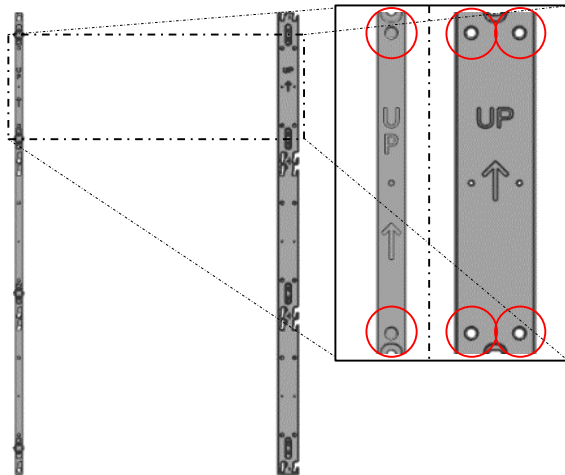

Fig1. Check the Hole
- ※ First, check the Hole to fix the ④ JIG. [Fig.1]